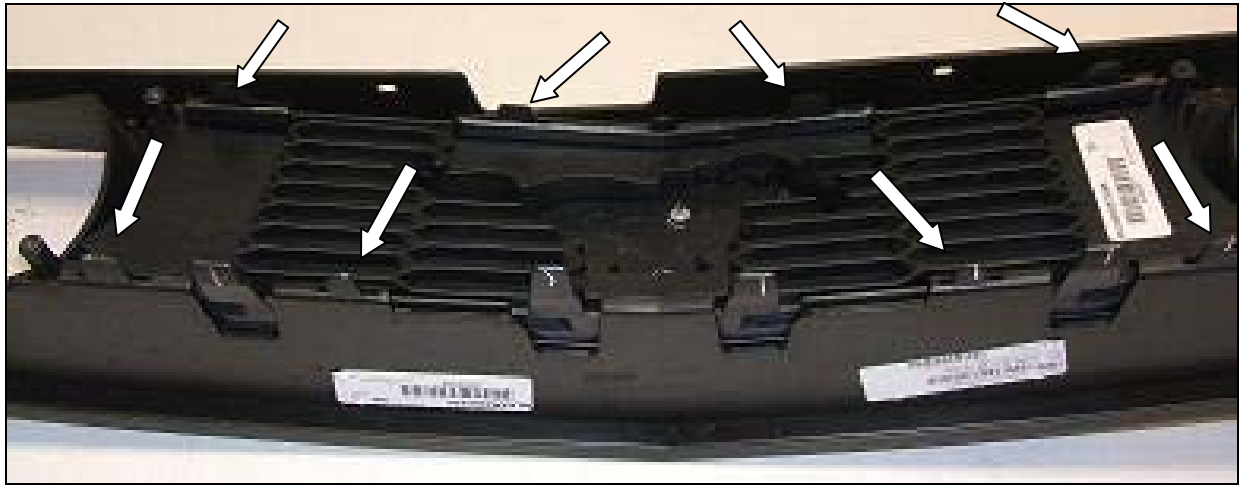

Figure 12
- Next, using a small screw driver, release the eight retainer tabs to separate the Grille from the surround. Refer to Figure 12.